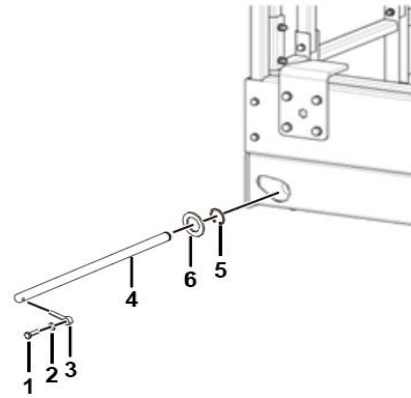

Fig. 3.2 Fork and platform connection fixing parts
5. As shown in Fig. 3.2, remove the connecting fixture between the main platform and the fork with a special tool.
9. Adjust the crane to align the rectangular tube hole of the uppermost layer of fork with the main platform hole. As shown in Fig. 3.2, use a special tool to thread pin 4, and tighten one end of the pin with bolt 1, washer 2 and pin 3 to specified torque. The other end is fitted